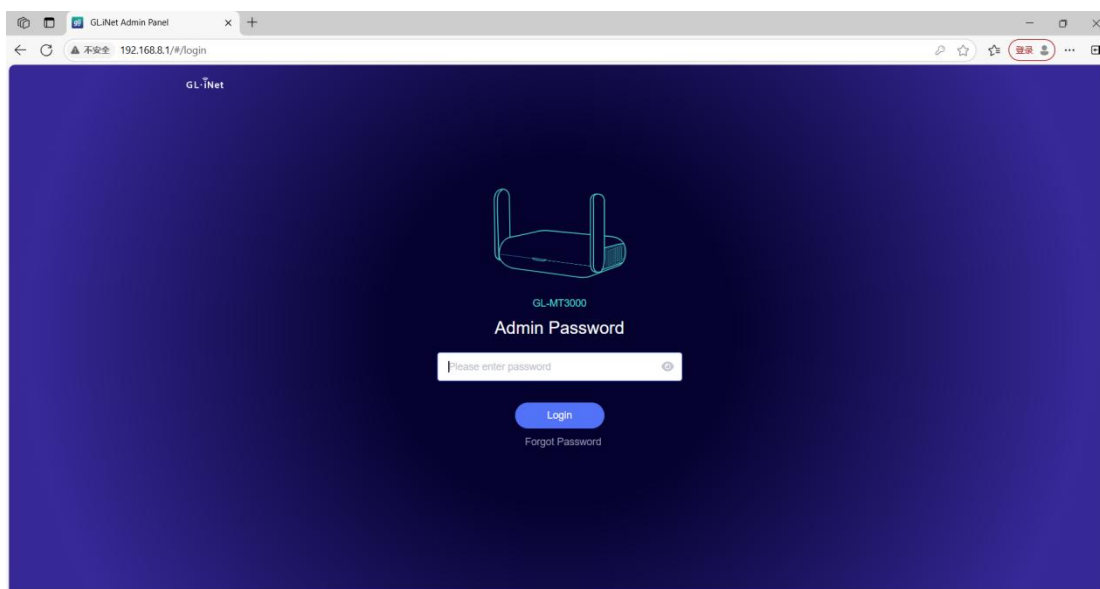

Figure 3-9 Router Login Page
1. Open a web browser, enter the URL 192.168.8.1 (as shown on the router's label) to access the router login page. Then, enter the password (which shall be customized during initial login) to log in to the router admin page, as shown in Figure 3-9.